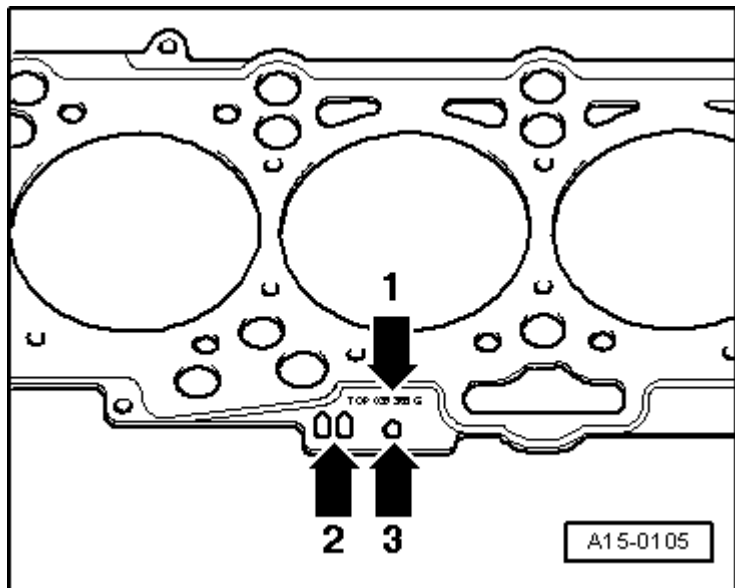

Fig. 5: Identifying Cylinder Head Gasket Identification
- Observe the identification, refer to **Fig. 5**.